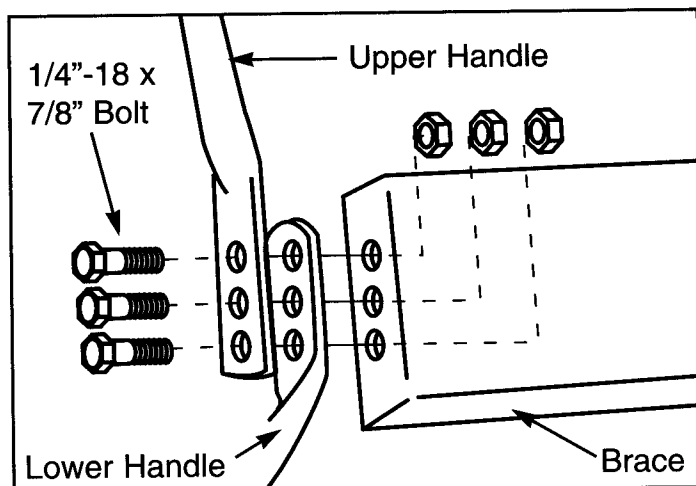

Fig. 1
STEP 2 Attaching the handle: remove the bolts retaining the panel to the lower handle. You need six bolts to mount the handle. Two of the six bolts were those you just removed. The other four are supplied with loose hardware in the plastic bag (see Fig. 1). Take the bottom section of the handle and install a bolt through the brace, the handle section, and the panel or bracket. Put a nut on each bolt and secure the panel or bracket on both sides of the handle.